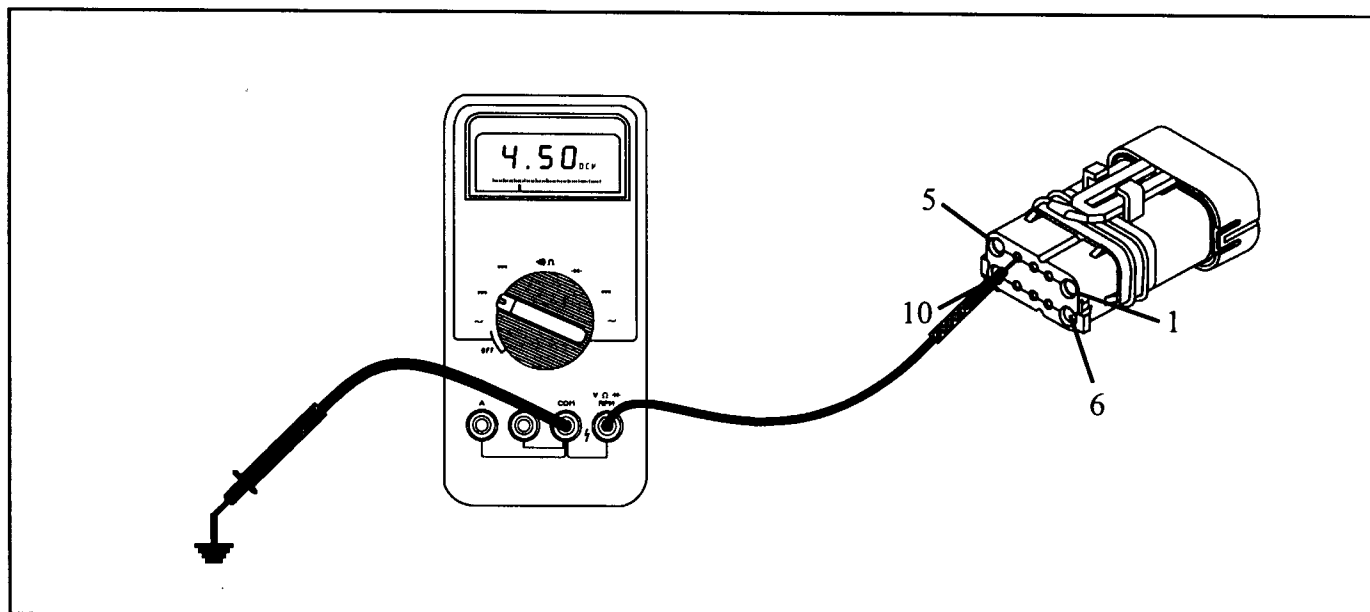
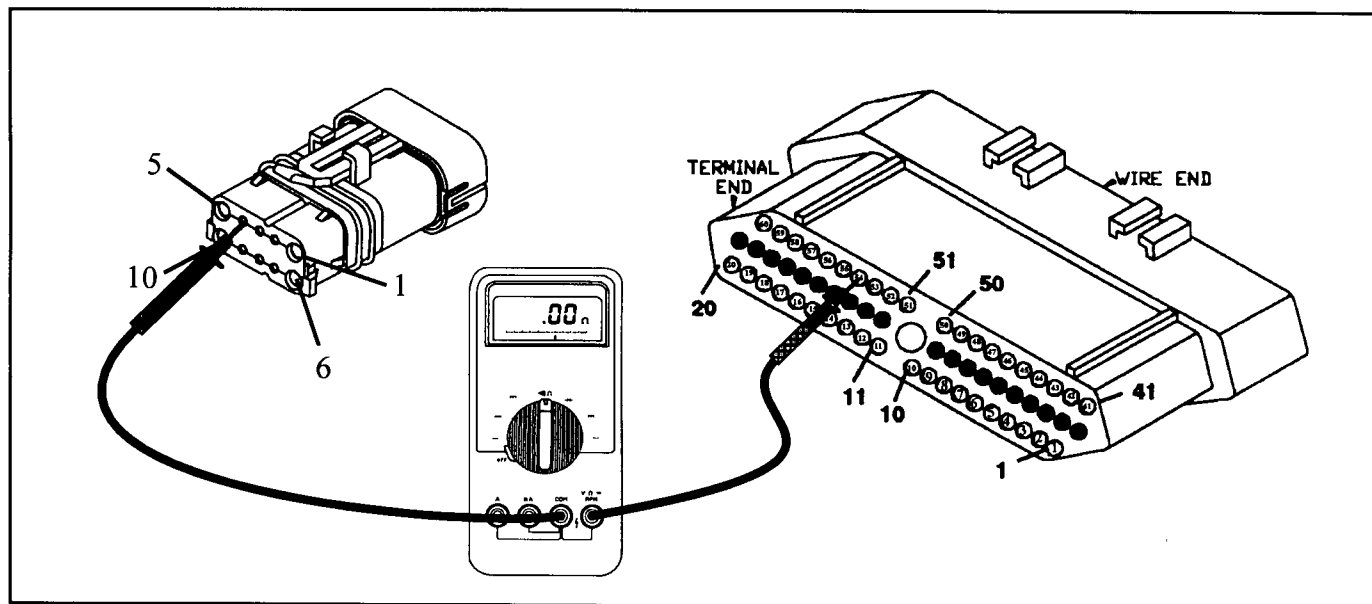

Figure 73
Figure 74
- Unplug the TRS connector. Place the ignition to the "ON" position. With a volt meter placed to DC volts, put the negative lead to a good known ground. With the positive lead, check terminal 4 for voltage (See Figure 73). If voltage is above 4.5 volts move to the next step. If less than 4.5 volts is observed, turn the ignition off and unplug the TCM. Change the meter to an ohms setting and check for continuity between terminal 54 in the TCM connector to terminal 4 in the TRS connector (See Figure 74). If continuity (5 ohms or less) is seen, replace the TCM. If continuity is not seen, repair or replace the wire.